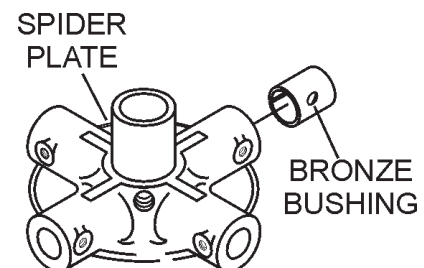

Figure 45. Bronze Bushings
4. Examine the bronze trowel arm bushing insert (Figure 45), clean if necessary. Replace bushing if out of round or worn.
- Trowels manufactured prior to June of 1982 require that the distance from the end of the adjusting bolt and the fixture arm must be 7/8" (Figure 45). Conversely, trowels manufactured after June of 1982 require that the distance from the end of the adjusting bolt and the fixture arm must be 1/2".